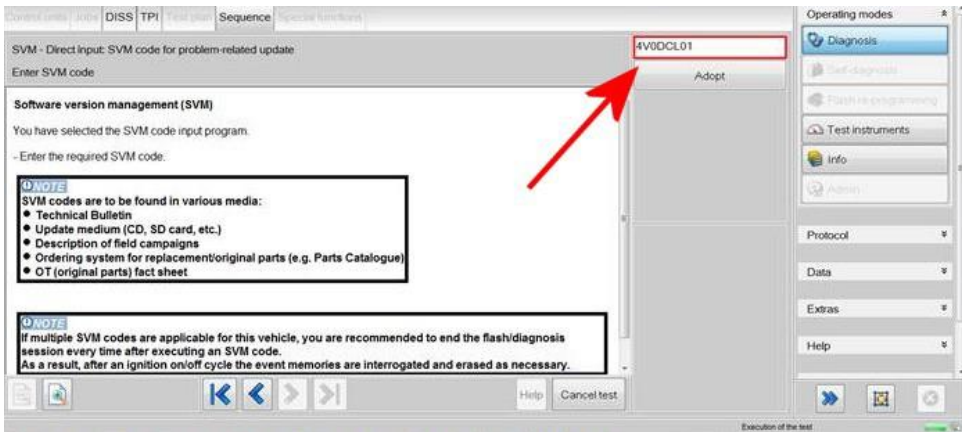

Figure 14
13. On the next screen enter the SVM code 4V0DCL01 and select Adopt (Figure 14)